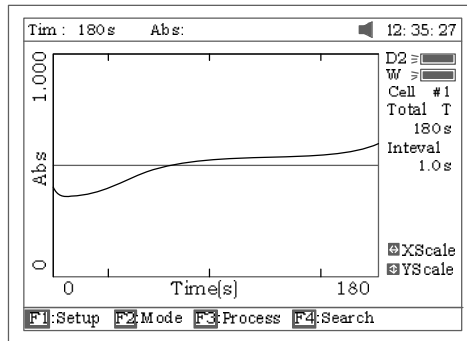

Fig 56
-scan starts. At the end of the time-scan, the beeper also beeps 3 times (Fig 56);
Press the key **【SAVE】** to save curve. Note: Load/Save requires the first kinetics display page Fig. 56. Press **ESC** if in Search to return to the required page.